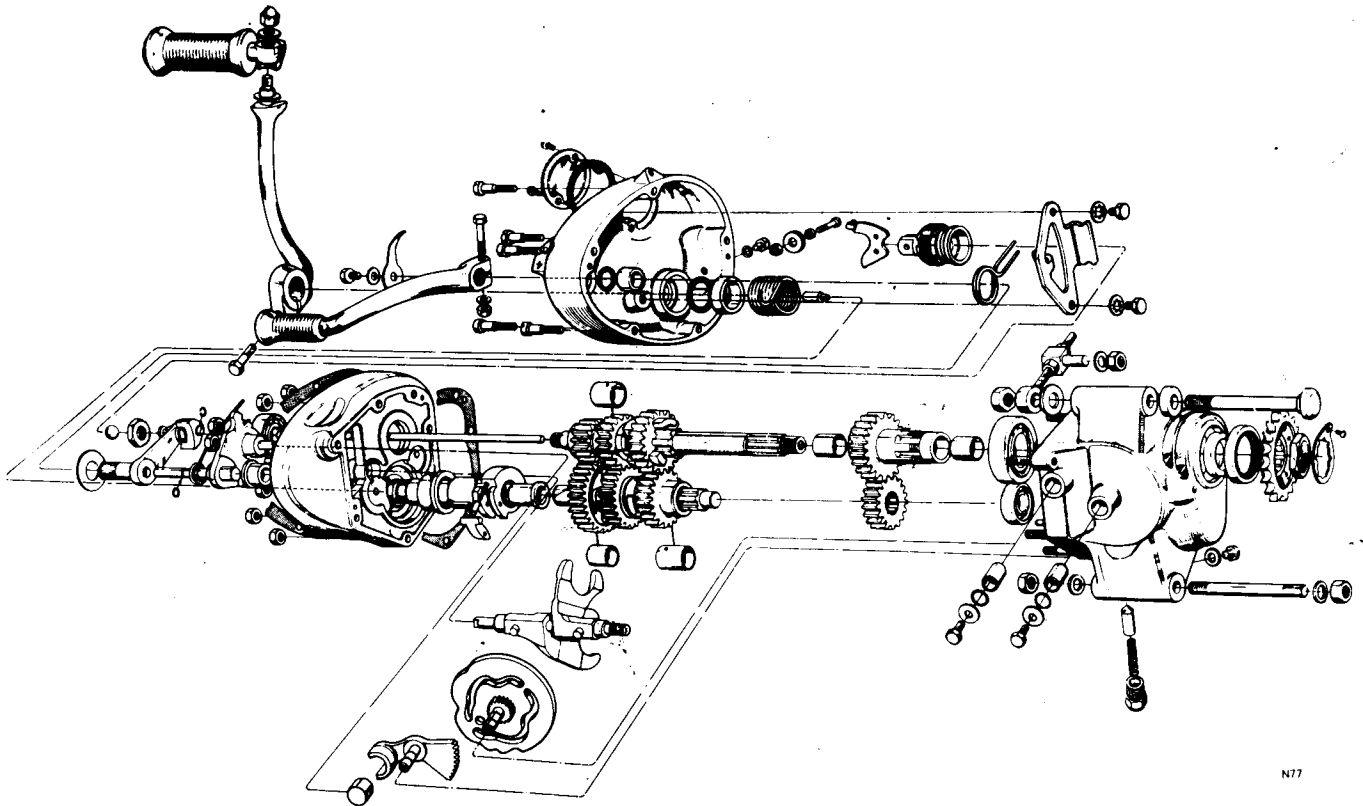

Fig. D4 Gear layout
- 14 Assemble the mainshaft 3rd gear with selector fork to the mainshaft (selector fork groove side outwards) and engage the pin with the inboard cam track (see Fig. D4).